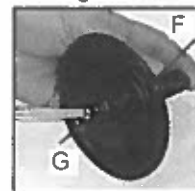
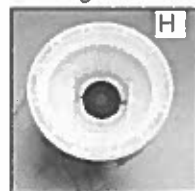
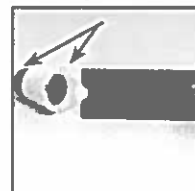

Figure 4.
Figure 5.
Figure 6.
4. Next remove the 12 torx screws that hold the flange in place. The flange and diaphragm can then be removed. Figure 3. Note: For clarity the pressure cylinder is shown removed from the tank. Figure 4.
5. To replace the diaphragm, remove the connecting rod retaining screw (G) from the plunger and lever (F). Replace the diaphragm and reassemble. See Figure 4. Figure 5.
6. The valve assembly (H) is removed using a locally made tool. Remove red valve plate retaining pin using needle nose pliers, then insert tool into slots. See Figure 5. Use a screwdriver to rotate tool counter clockwise. Figure 6.
7. Once the valve assembly is removed, the valve plates and O-rings can be replaced. The bottom valve plate is secured into place with a red retaining pin. Push pin into place using needle nose pliers. Figure 6. Figure 7.